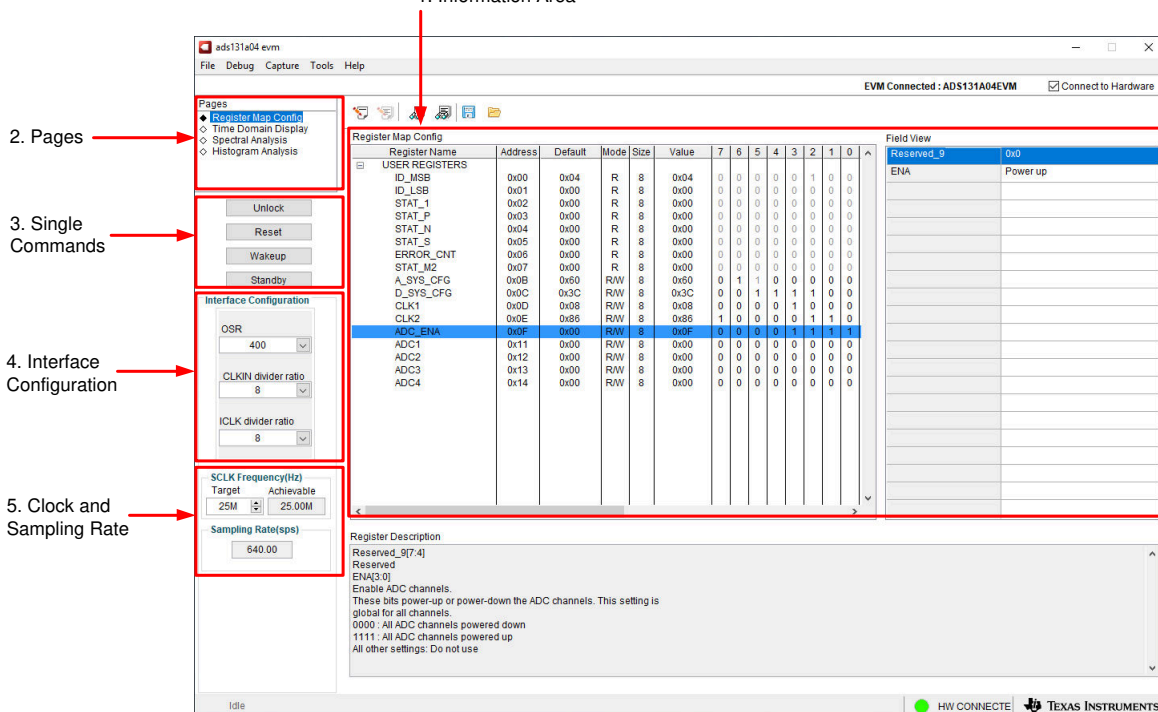

Figure 2-3. EVM GUI Global Input Parameters
5. Click the Wake Up and then Unlock button in the Single commands section of the GUI and start using the ADS1282EVM GUI to evaluate the EVM as shown in Figure 2-3. Learn more about EVM GUI Global Input Parameters and the various pages within the GUI in Section 7.1.